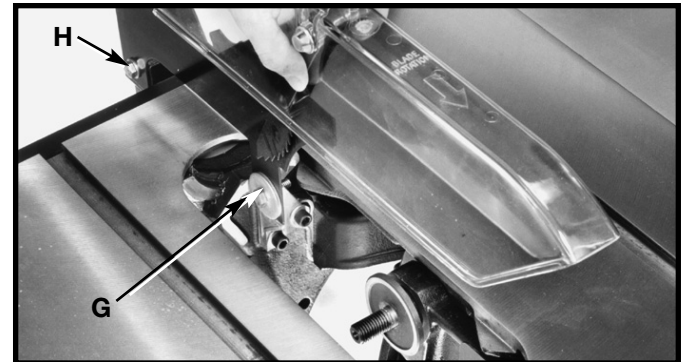
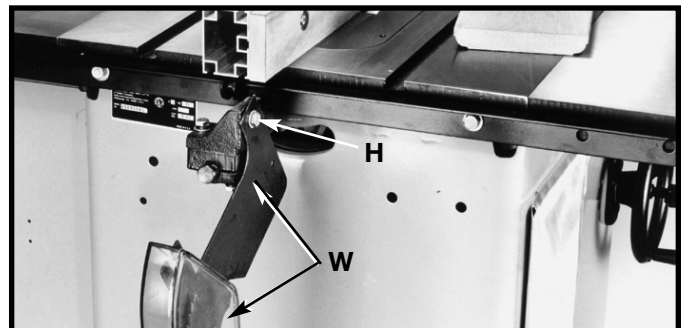

Fig. 62
Fig. 63
⚠ CAUTION FOR CERTAIN CUTTING OPERATIONS (DADOING AND MOULDING) WHERE THE WORKPIECE IS NOT CUT COMPLETELY THROUGH, THE BLADE GUARD AND SPLITTER ASSEMBLY CANNOT BE USED. LOOSEN SCREWS (G) AND (H) FIG. 62. LIFT UP AND SWING BLADE GUARD AND SPLITTER ASSEMBLY (W) FIG. 63 TO THE REAR OF THE SAW AND RETIGHTEN (H).